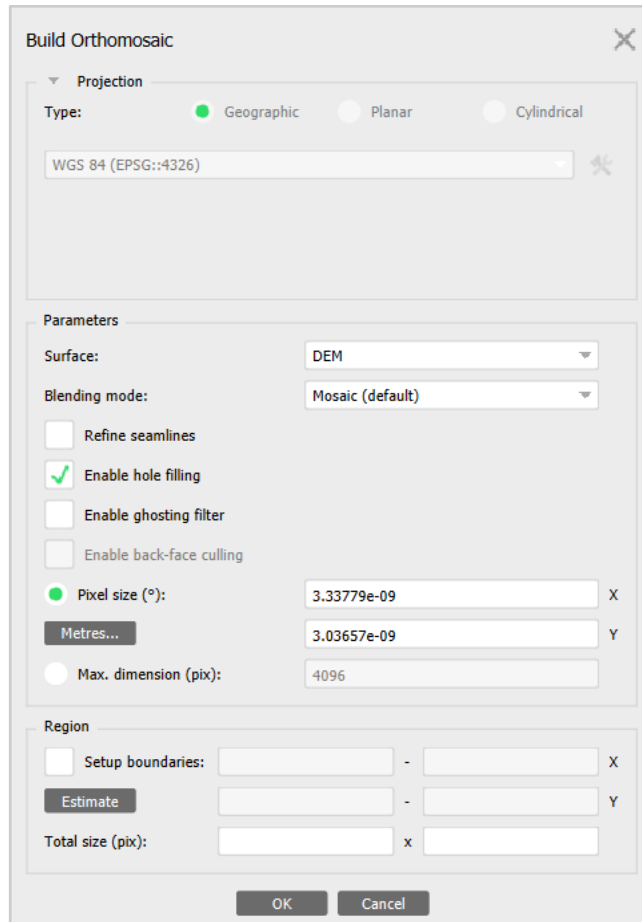

Figure 38. Build Orthomosaic window with settings as described in step 7.
7. A new window called *Build Orthomosaic* will appear. Accept defaults for pixel size, and change settings according to Figure 38. Click *OK*.